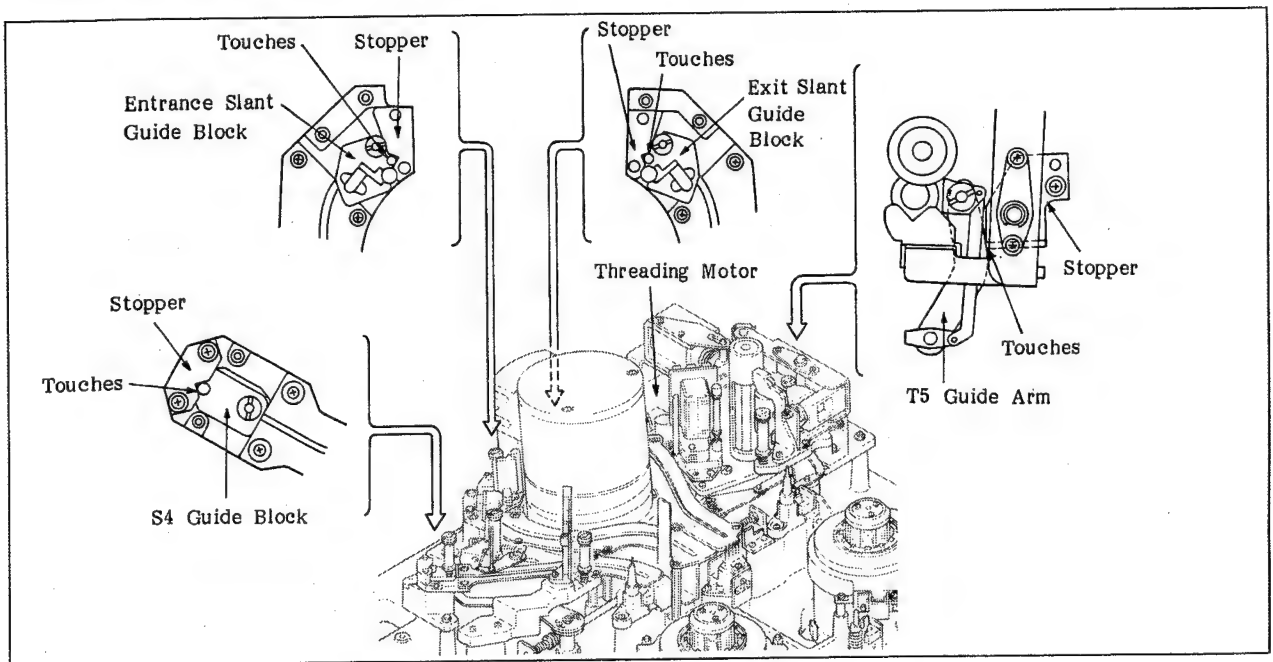

Fig. 6-59. Preparations Made before Adjustment
- a. Adjust the position by rotating the threading motor manually so that the S4 guide block, the T5 guide arm, the entrance slant guide block, and the exit slant guide block touch each stopper at the same time (each limiter starts to function), as shown in the four top views in Figure 6-59. If they do not touch at the same time, detach gear H from gear I, and turn the driving shaft manually so that the block touch each stopper at the same time.